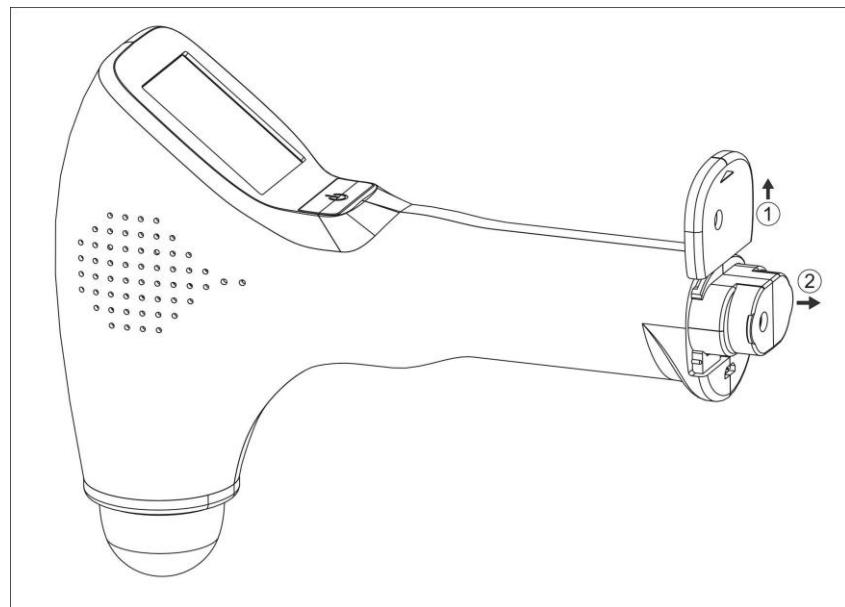

Figure 4-2 M2-W battery removal diagram
- Slide the cover plate of battery ① according to the direction of arrow.
- ②Take out the battery from the battery slot according to the direction of arrow
- Shown as figure 4-2